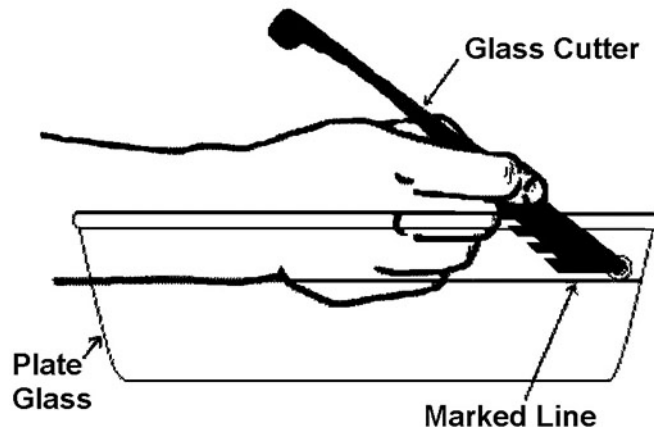

Figure 2-9. Cutting glass with a glasscutter.
3. Move the cutter smoothly with moderate but steady pressure, guiding it by hand as shown in figure 2-9.